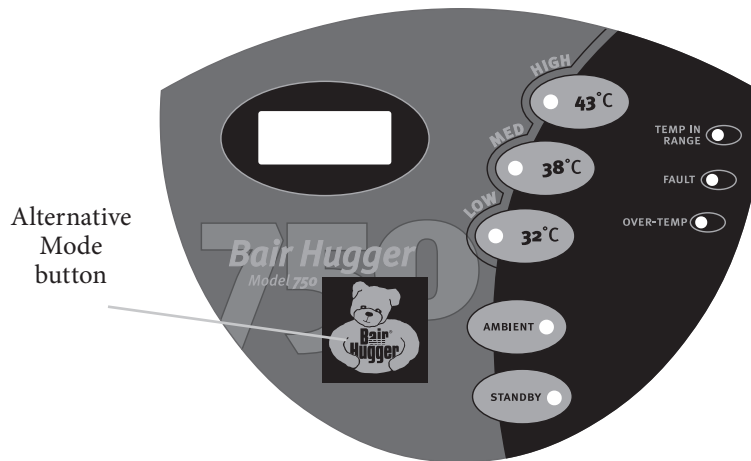

Figure 2. Control panel
7. Press the **Alternative Mode** button (see Figure 2 on page 8) and the **Ambient** button simultaneously for 3 seconds. The temperature management unit is now in *Calibration* mode. In this mode, the temperature management unit performs the following tasks:
4. Press the **Alternative Mode** button (See Figure 2 on page 8) and the **High** button simultaneously for 3 seconds. The temperature management unit is now in a *Forced Over-temperature* mode. In this mode, the temperature management unit performs the following tasks:
2. Press the **Alternative Mode** button (see Figure 2 on page 8) and the **Low** button simultaneously for 3 seconds. The temperature management unit is now in *Fault Code Log* mode. In this mode, the temperature management unit performs the following tasks: